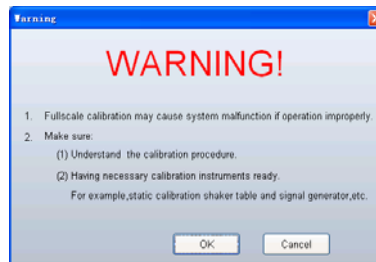
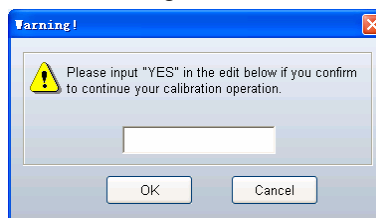
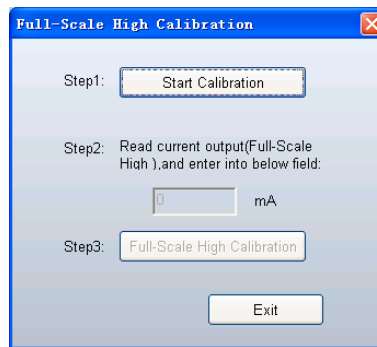

Figure 41
Figure 42
Figure 43
4. Click the button *Full-scale high Calibration*. Click OK button in the WARNING window(figure41). Enter YES in the Warning dialogue (figure 42) and click OK to open the calibration window(figure 43). Follow the steps showed in the window to implement calibration.